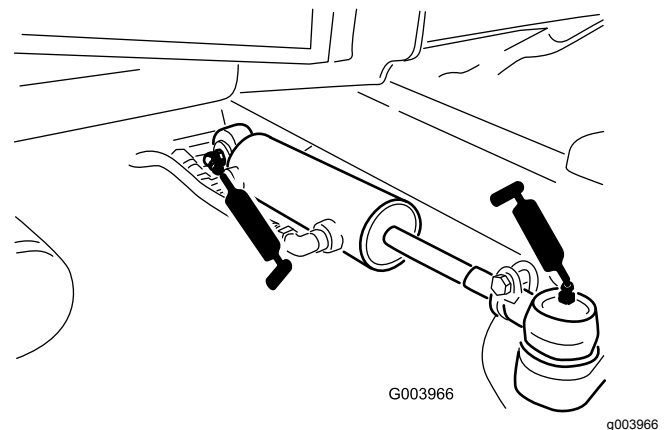

Figure 80
- Steering-cylinder ball joints (2) (Figure 80)